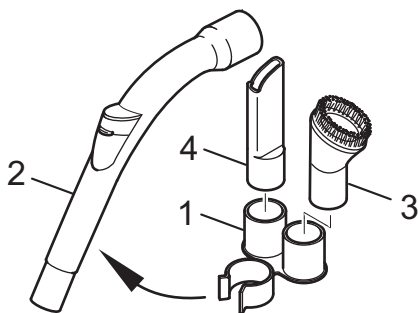

Fig. 4
4. Push the accessories mount (Fig. 4/1) onto the handle (Fig. 4/2). Then push the furniture brush (Fig. 4/3) and crevice nozzle (Fig. 4/4) on to the holders for these.
■ The crevice nozzle and the furniture brush are included as **accessories** in the scope of delivery. They can be secured to the accessories mount (Fig. 4/1).